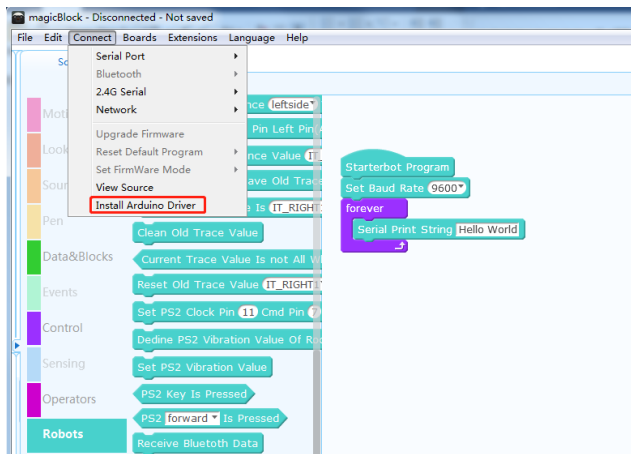

Figure 2-2-1
- 2) Install the driver of Starter-bot Master Control Board, click "Connect to Install Arduino Driver" as shown in Figure 2-2-1, and click "Install" as shown in Figure 2-2-1.